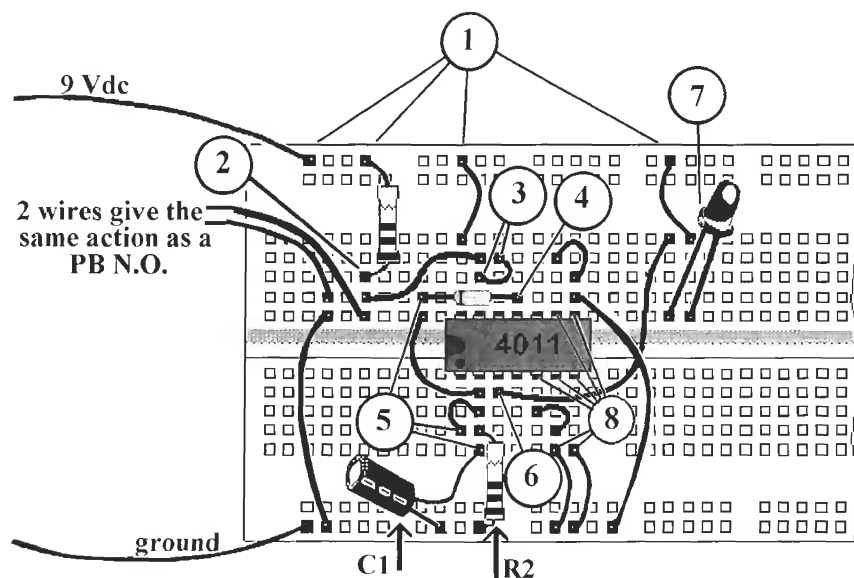

Figure L16-3
4. Now examine Figure L16-3.
**Table L16-2** Measurements for Figure L16-3